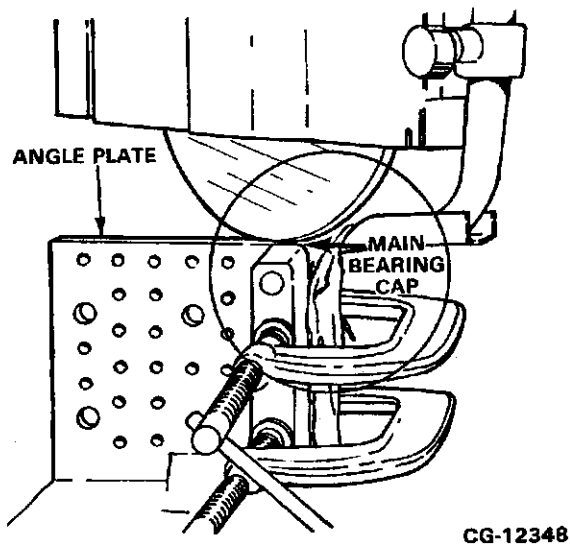

Figure 7.70. Machine Surface "B"
- d. Modify surface "B" by clamping the service main bearing cap to an angle plate with surface "B" facing up. Mill or grind the appropriate amount of material, calculated in step c, from surface "B". Refer to Figure 7.70.